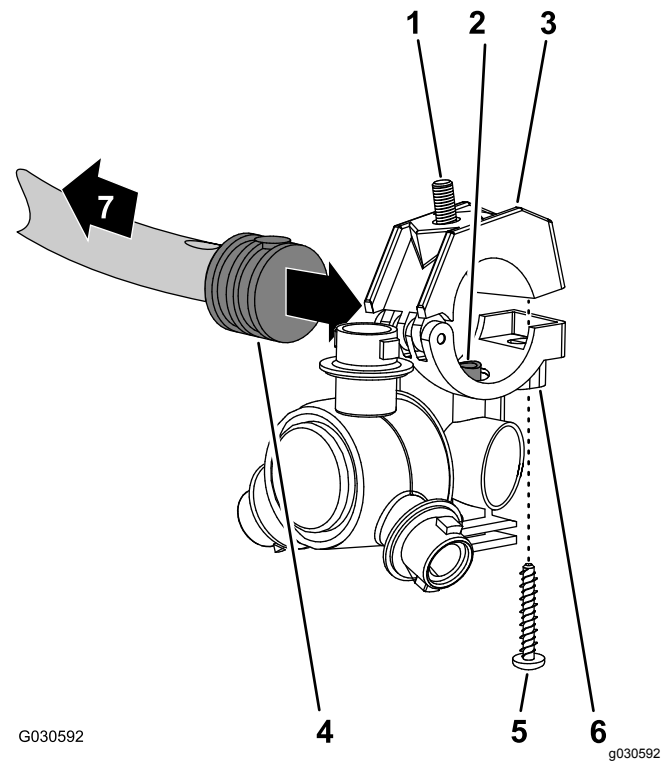

Figure 130
1. Align the transfer tube in the saddle of a sprayer nozzle (Figure 130) with the hole in the side of the single barbed-hose shank (1/2 inch).
2. Close the upper clamp half around the barbed-hose shank and secure the clamp half and spray-nozzle body (Figure 130) with the stainless steel screw (#12 x 1-1/4 inches); torque the stainless steel screw to 14 to 18 N·m (20 to 25 in-lb).